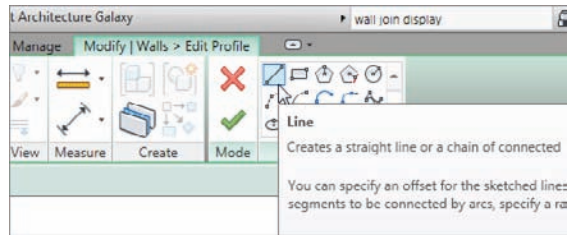

FIGURE 3.43 Adding additional lines to alter the wall's profile
4. On the Draw panel of the Modify | Walls > Edit Profile tab, select the Line button, as shown in Figure 3.43.